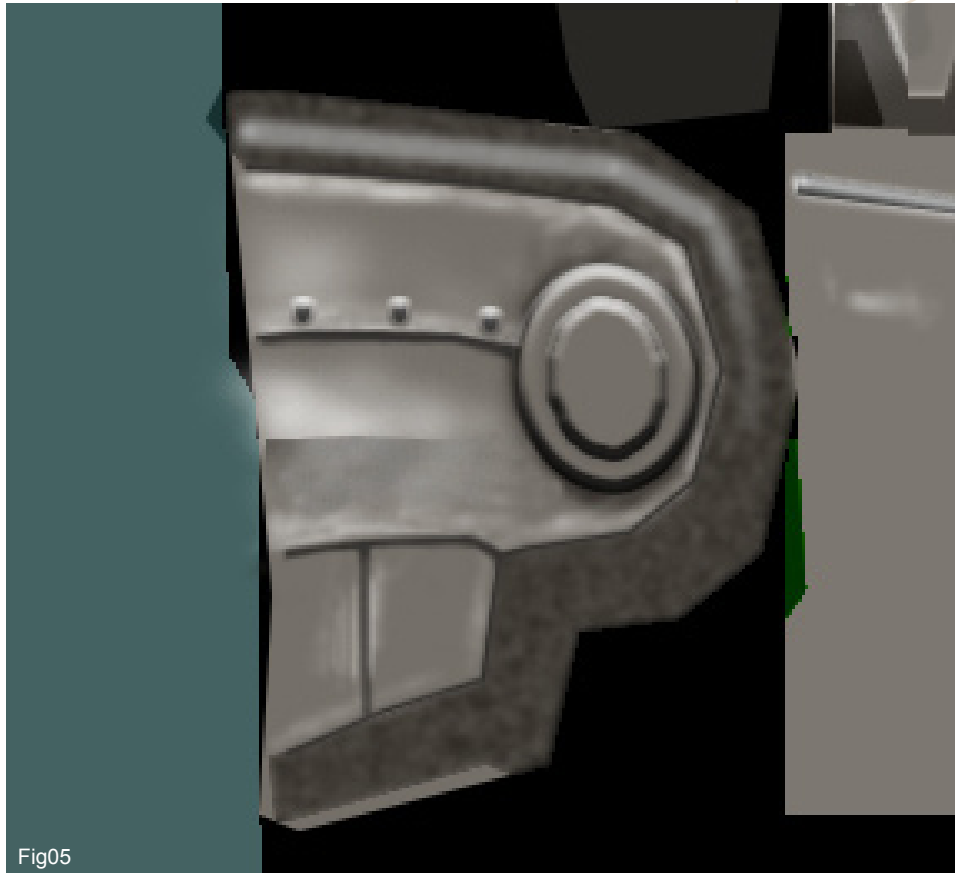

Fig05
5. Now, believe it or not, that is essentially the structure of our elbow pad. It doesn't look finished yet but with a few minor tweaks it will be. As this is a relatively small area on the template we are going to apply our final adjustments on the main colour block layer, as opposed to adding any further layers. You can either use the Colour Dodge / Burn tools or choose lighter and darker shades of grey to do this - both methods will require some painting by hand. We are aiming for something similar to Fig.05, in which you can see some modulation to help emphasize the grooves and curvature of the metal. Already we can see an improvement, but one final layer will create the finishing touch.